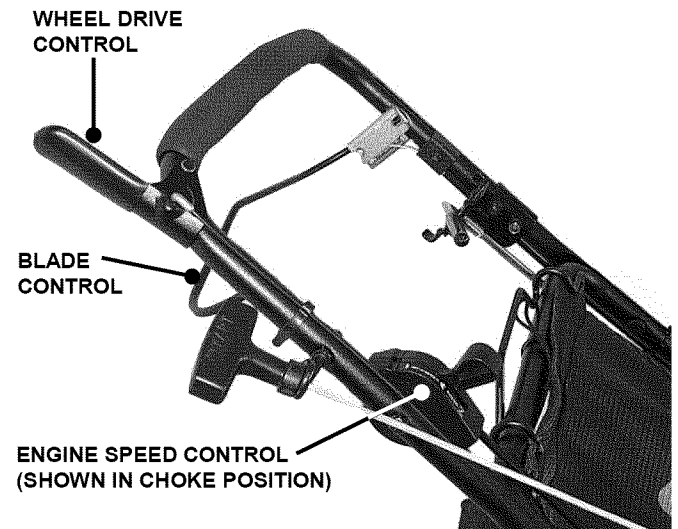

FIGURE 2.3
1. Turn fuel valve to on. See Figure 2.4. Move engine speed control to the "choke" position. The choke should not be required to restart a hot engine. See Figure 2.3.
4. After engine starts, move engine speed control away from the choke position to the "Fast" (Rabbit) position. See Figure 2.3.